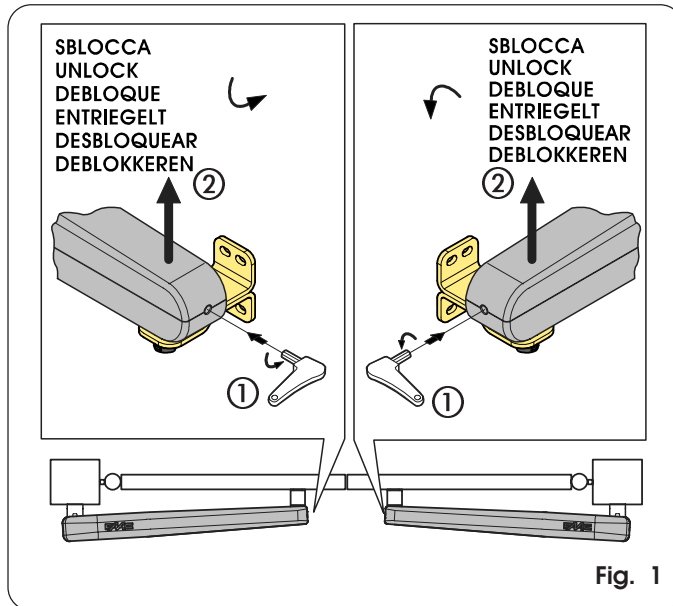

Fig. 1
- Fit the supplied Allen wrench in the front part of the operator and turn it anti-clockwise for 5-6 turns (Fig. 1- Ref. ①).
- Lift the operator by its front end, detaching it from the fitting (Fig. 1- Ref. ②) and remove the release key.